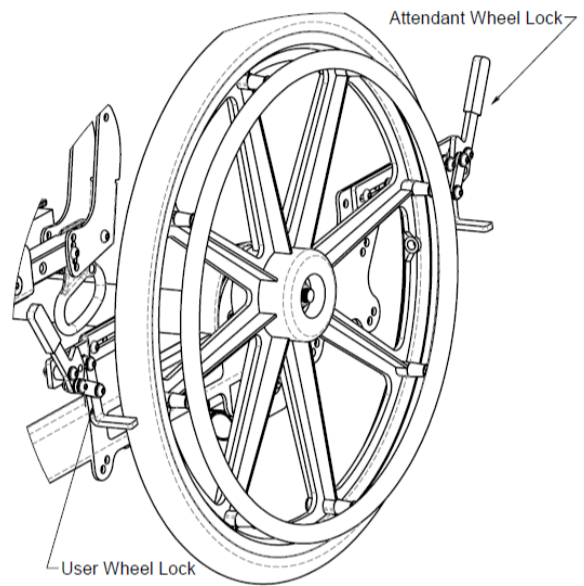

Figure 16.39: User Wheel Locks and Attendant Wheel Locks
4. To engage the attendant wheel lock in the User and Attendant Wheel Lock option (see Figure 16.39), follow the step 3 instructions. To engage the user wheel lock in the User and Attendant Wheel Lock option (see Figure 16.39), follow the instructions corresponding to the user wheel lock type (ie. Push to Lock or Pull to Lock).